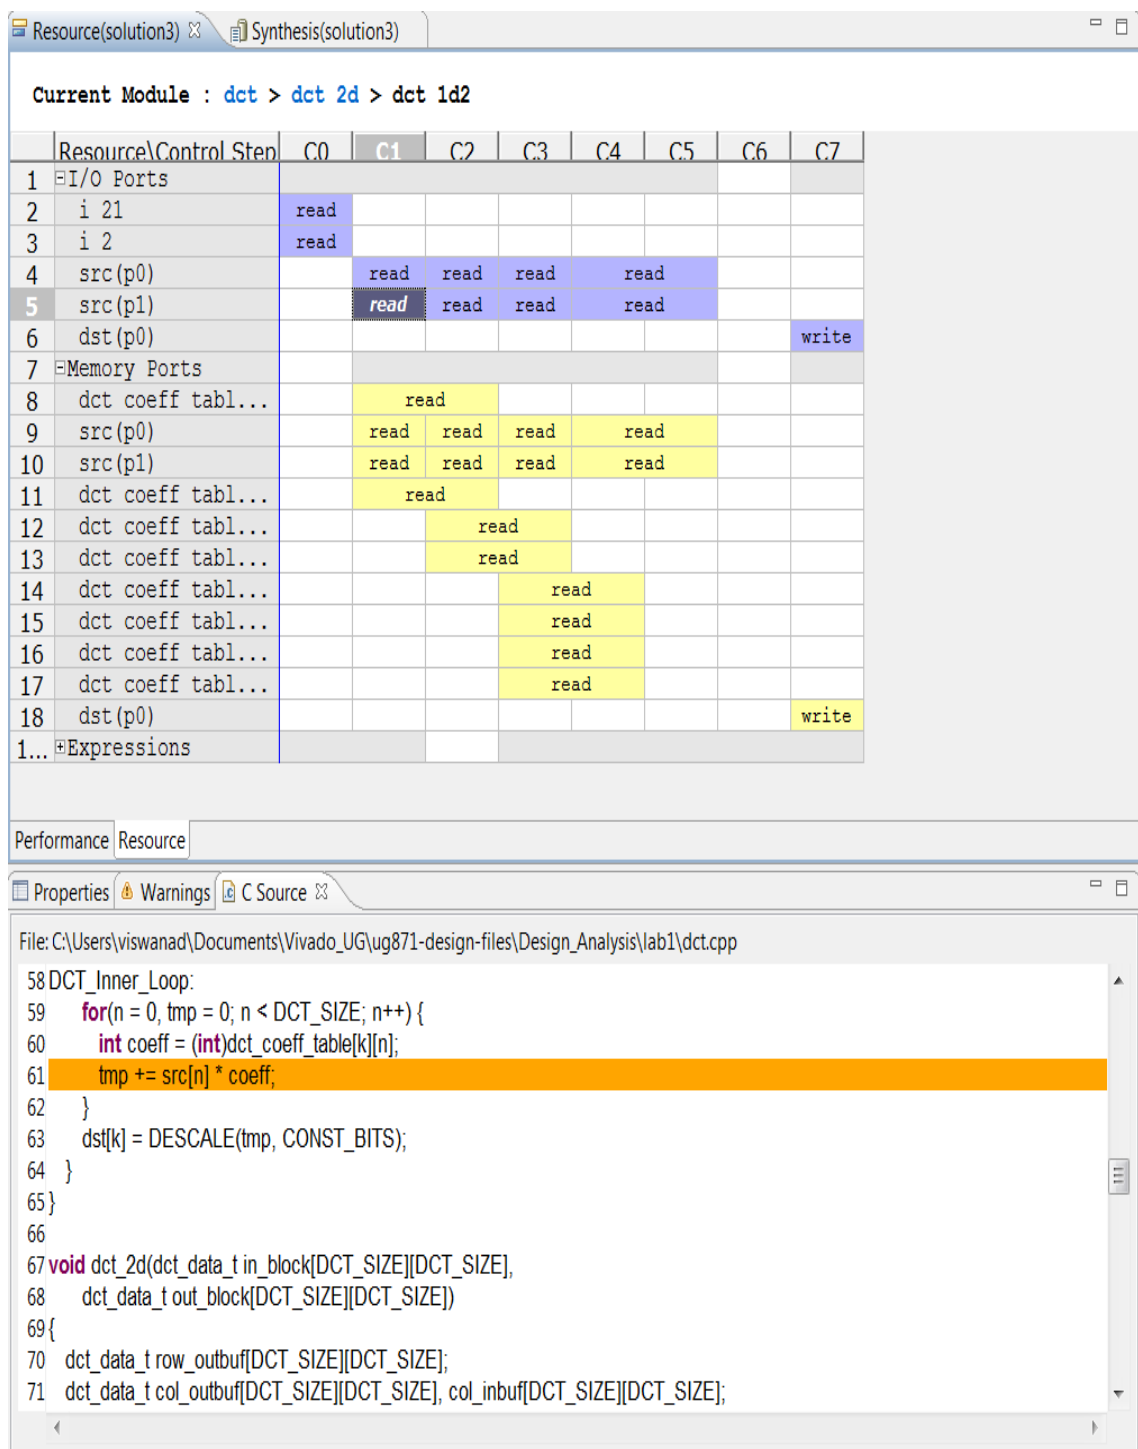

Figure 6-25: Memory Resource SRC and Source Code
17. Right-click and select **Goto Source** to see the view shown in Figure 6-25.
Figure 6-25 shows this read on the `src` variable is from the read operation inside loop `DCT_Inner_Loop`. This loop was automatically unrolled when `DCT_Outer_Loop` was pipelined and all operations in this loop can occur in parallel (if data dependencies allow).
The eight reads are being forced to occur over multiple cycles because the array `src` is implemented as a block RAM in the RTL and a block RAM can only allow two reads (maximum) in any one clock cycle. In Figure 6-25, the read operations take 2 clocks cycles: a cycle to generate the address for the block RAM and a cycle to read the data. Only the launch (address generation cycle) is shown because it overlaps with the operation in the next clock cycle.